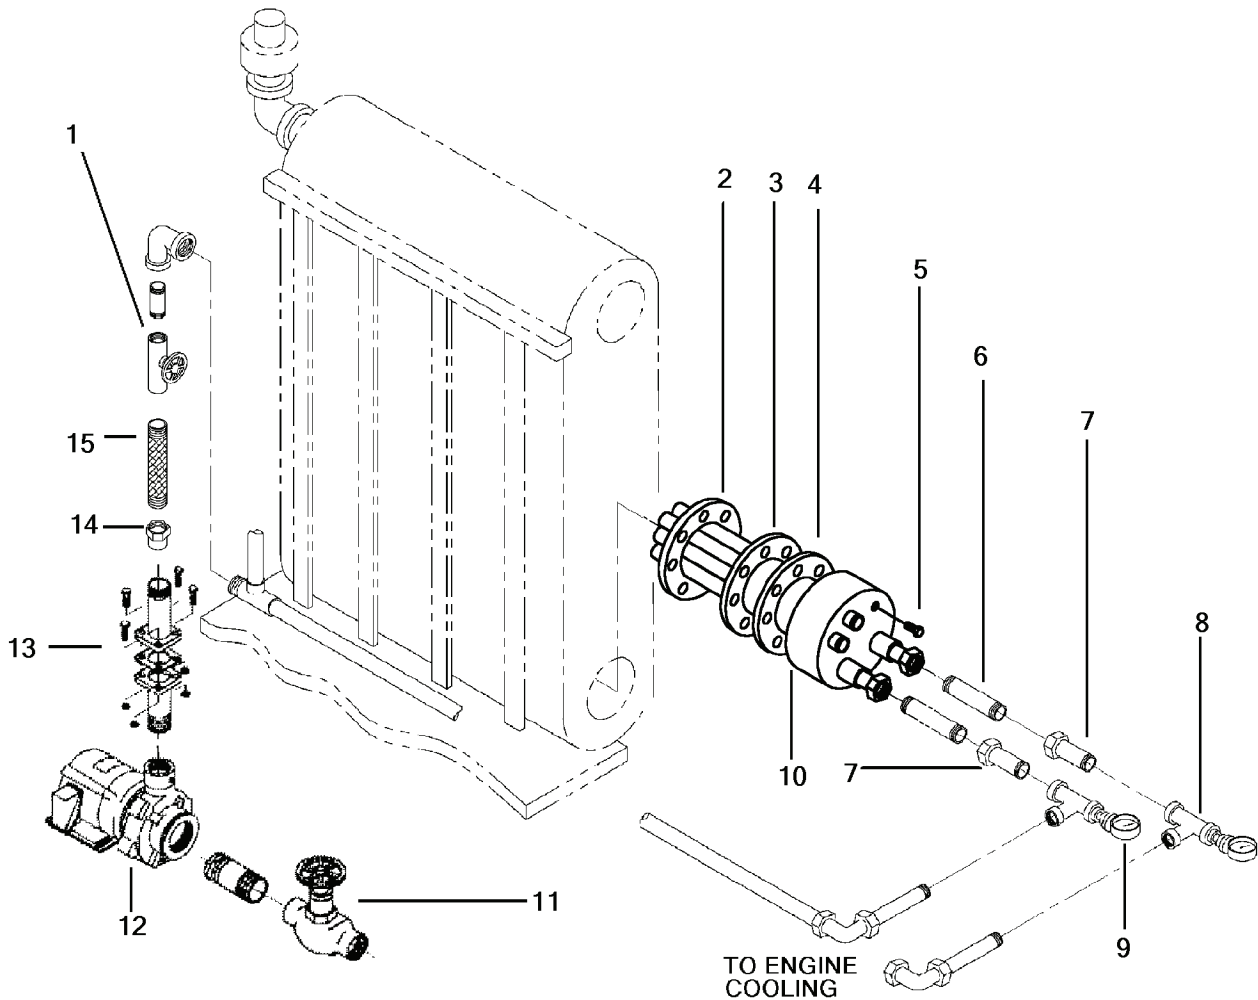

Figure 2-10. Jacket Water Piping Group.
a. Removal of the jacket water piping group (Figure 2-10), proceed as follows:
- (2) Drain the jacket water pump (12, Figure 2-10) and disconnect the pump outlet flange (13).
Repair is by replacement of the gaskets (2 or 4), the seawater heater bundle (3), seawater heater supply (9) and discharge (8) thermometers and damaged or worn associated piping (Figure 2-10):
- a. To repair the seawater heater bundle (3):
- (1) Remove seawater heater bundle as described in removal procedures a.
- (2) Install new seawater heater bundle as described in replacement procedures.
- a. Replace the braided pipe connector (15) and associated piping.
- b. To replace the jacket water piping group (Figure 2-10), proceed as follows: